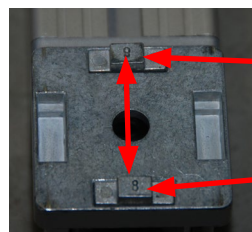
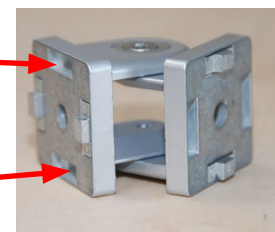
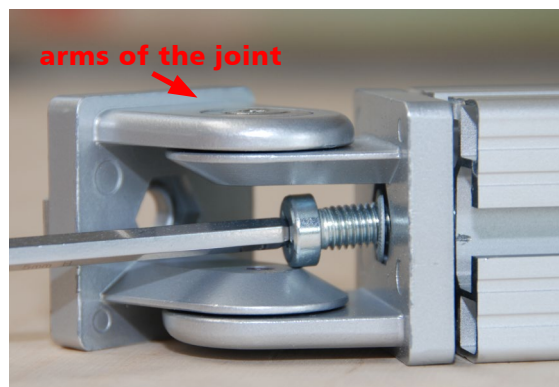

fig. 3.1-12
fig. 3.1-13
fig. 3.1-14
Step 8 At first, the four (4) threaded inserts will be screwed into the open ends of the angles braces (**A1g**) using a **9 mm | 0.35 inch** slot screwdriver. In order to attach the joints **A1f** to the angles braces, put two (2) adjusting blocks opposite of each other into the provided holes. It is very important to insert the adjusting blocks into the holes at the sides where the arms of the joints are located and that the number 8 on top of the adjusting blocks points outwards. **(fig. 3.1-12 and fig. 3.1-13)**. You will find that the adjusting blocks marked with number 8 will fit exactly into the lead channels. Now position the joints at the ends of the angles braces and bolt them together using the four (4) socket head screws **M8x25**, the washers and the corresponding Allen key. **(fig. 3.1-14)**.